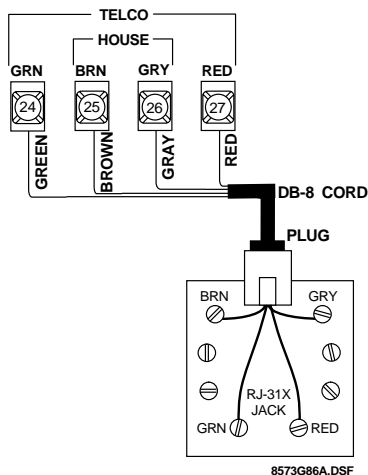

Figure 36. Connecting the DB-8 Cord to the Panel and RJ-31X Jack
1. Connect the green, brown, gray, and red flying leads from the DB-8 cord to panel terminals 24, 25, 26, and 27 (see Figure 36).
- Insert the DB-8 cord's plug into the RJ-31X (see Figure 36).